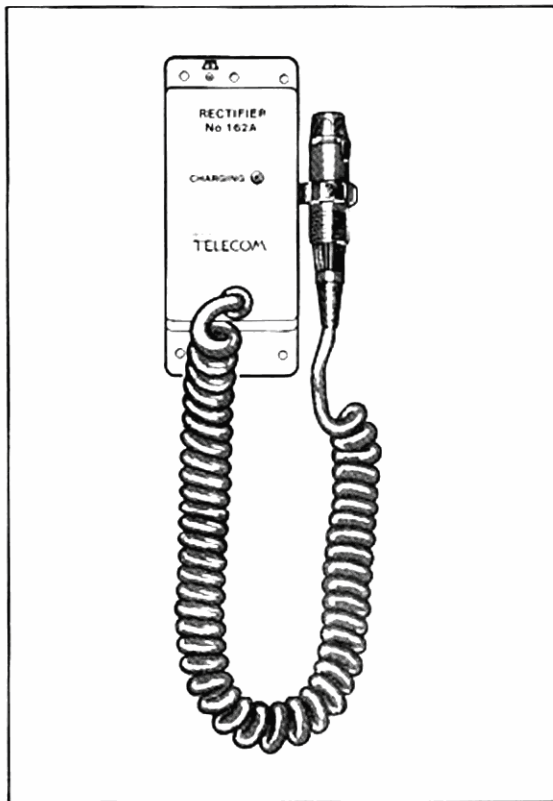
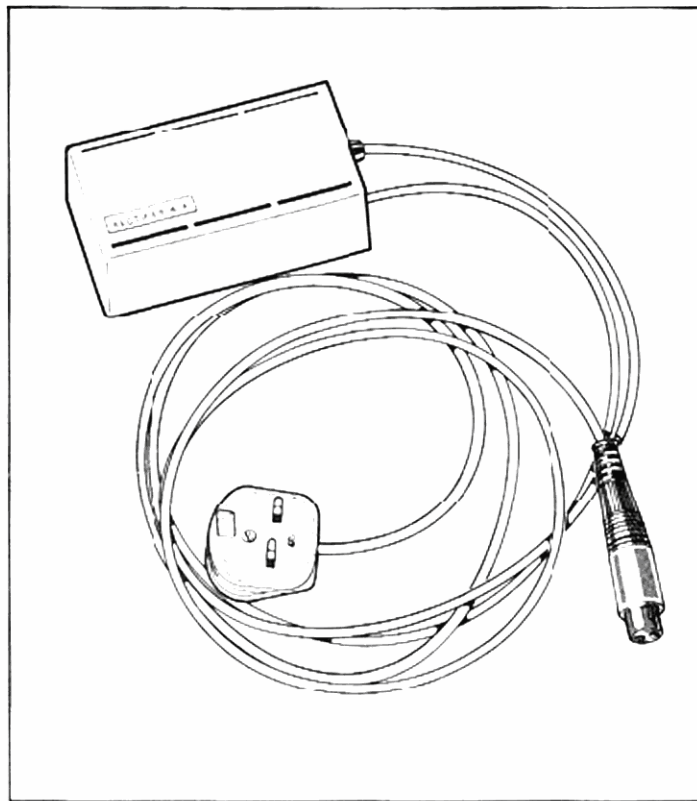

Fig 3. Rectifier 162A
Fig 4. Typical Rectifier 161A
The instrument is powered by an internal battery which is charged from the vehicle charging point (Rectifier 162A see Fig 3). Exceptionally the battery can be re-charged using the mains charging unit (Rectifier 161A see Fig 4) specially held for the purpose at the T.E.C.
3.1 Before the Tester 301A is used for the first time the battery must be given a full charge using the mains powered charging unit (Rectifier 161A which is held at the T.E.C. see Fig. 4). The battery should be charged for at least 14 hours, care being taken to see that the selector switch is in the 'OFF/CHARGE' position.
3.5 If the above tests are performed satisfactorily the instrument can be assumed to be in working order and should be switched off and connected to the vehicle charging point (Rectifier 162A see Fig. 3).